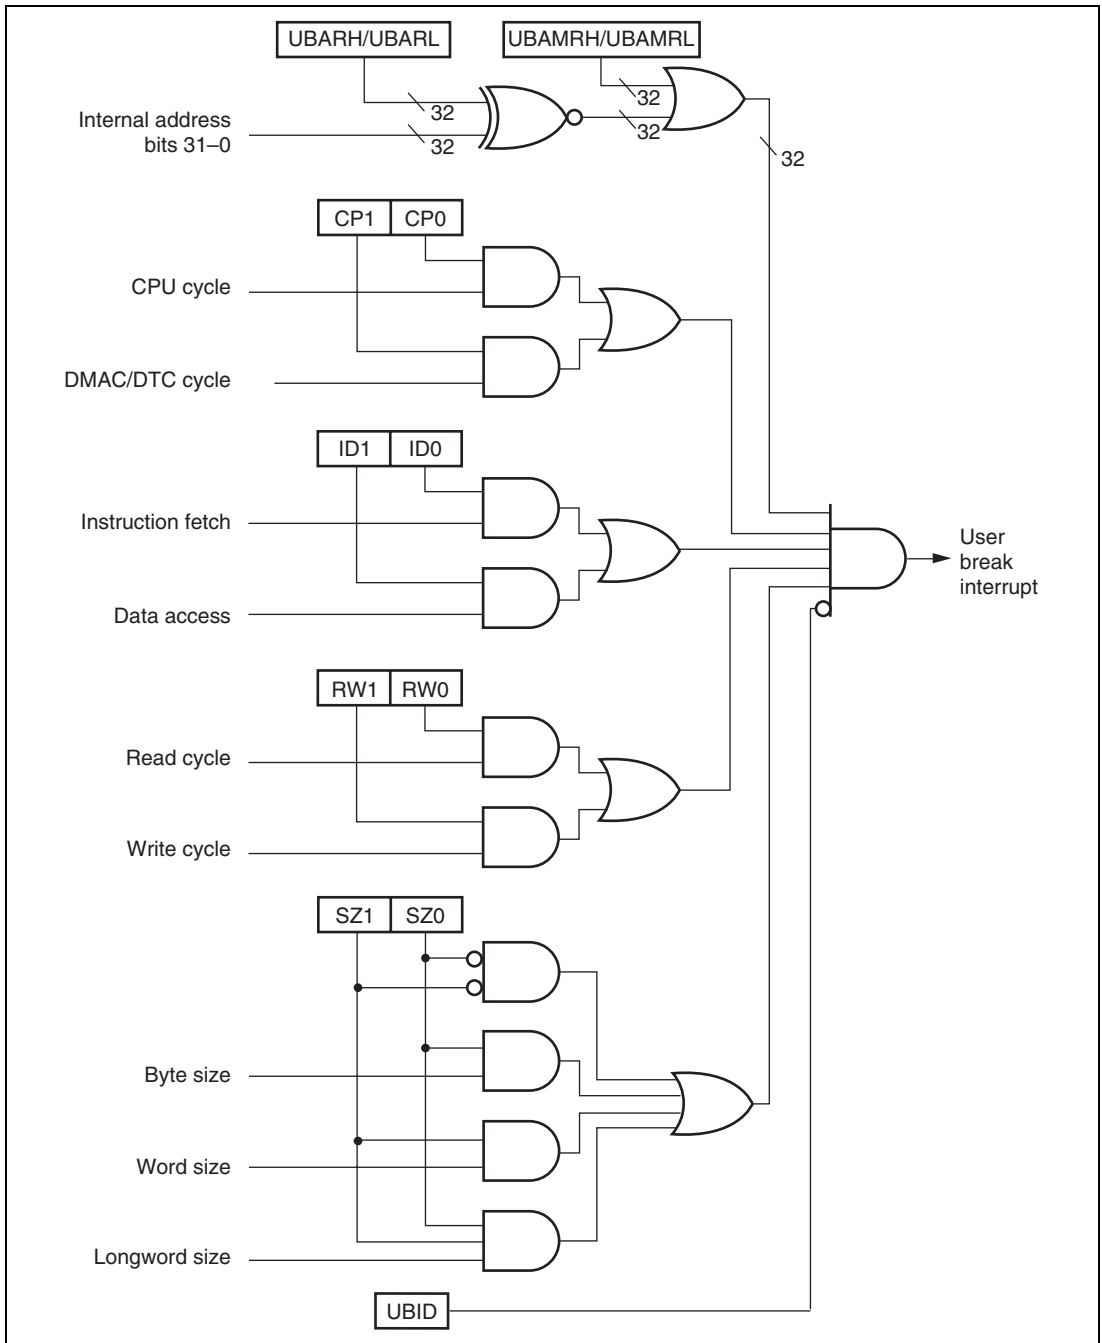

**Figure 7.2 Break Condition Determination Method**
2. The UBC uses the method shown in figure 7.2 to determine whether set conditions have been satisfied or not. When the set conditions are satisfied, the UBC sends a user break interrupt request signal to the interrupt controller (INTC).
3. The interrupt controller checks the accepted user break interrupt request signal's priority level. The user break interrupt has priority level 15, so it is accepted only if the interrupt mask level in bits I3 to I0 in the status register (SR) is 14 or lower. When the I3 to I0 bit level is 15, the user break interrupt cannot be accepted but it is held pending until user break interrupt exception processing can be carried out. Consequently, user break interrupts within NMI exception service routines cannot be accepted, since the I3 to I0 bit level is 15. However, if the I3 to I0 bit level is changed to 14 or lower at the start of the NMI exception service routine, user break interrupts become acceptable thereafter. See section 6, Interrupt Controller (INTC), for the details on the handling of priority levels.